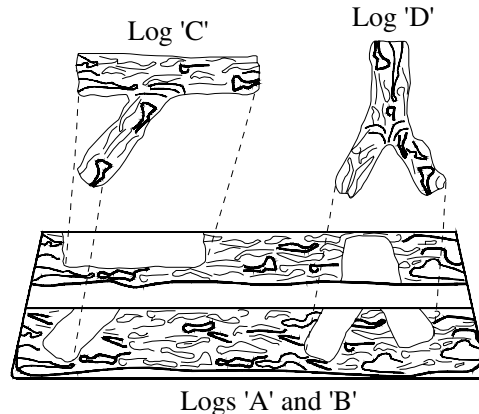
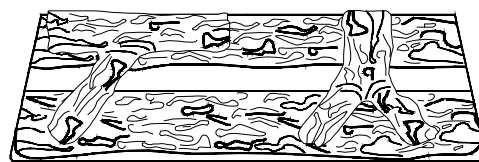

Figure 9a. Log placement.
Figure 9b. Completed log installation.
The MW38-BV is supplied with four (4) soft fibre logs. Logs "A" and "B" are permanently attached to a fibre base, which is pre-installed by the factory. To install the two small logs ("C" and "D"), simply place them onto their mating positions as shown in figure 9a below. When log set is installed it should look like figure 9b.